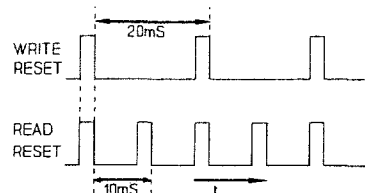

Fig. 5.26
From the incoming 50 Hz frame synchronisation signal, the incoming burst-key signal (BK) and the generated write clock signal, a write reset signal (WR) is generated (pin 37), which ensures that one complete frame is always written to the memory. From the generated 100 Hz frame synchronisation signal, the generated line sync. signal and the generated read clock signal, a read reset signal (RR) is generated (pin 36), which ensures that one complete frame is always read twice from the memory. These signals must be generated accurately so that the correct frame is always written or read. The signals look as follows (fig. 5.26).